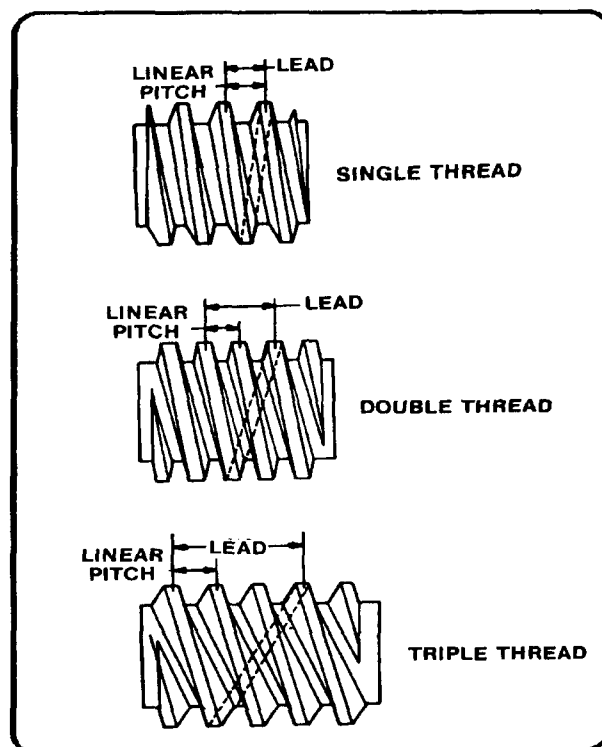

Figure 7-74. Screw thread types.
- Lead is the distance a screw thread advances axially in one complete revolution. On a single-thread screw, the lead is equal to the pitch. On a double-thread screw, the lead is equal to twice the pitch, and on a triple-thread screw, the lead is equal to three times the pitch (Figure 7-74).